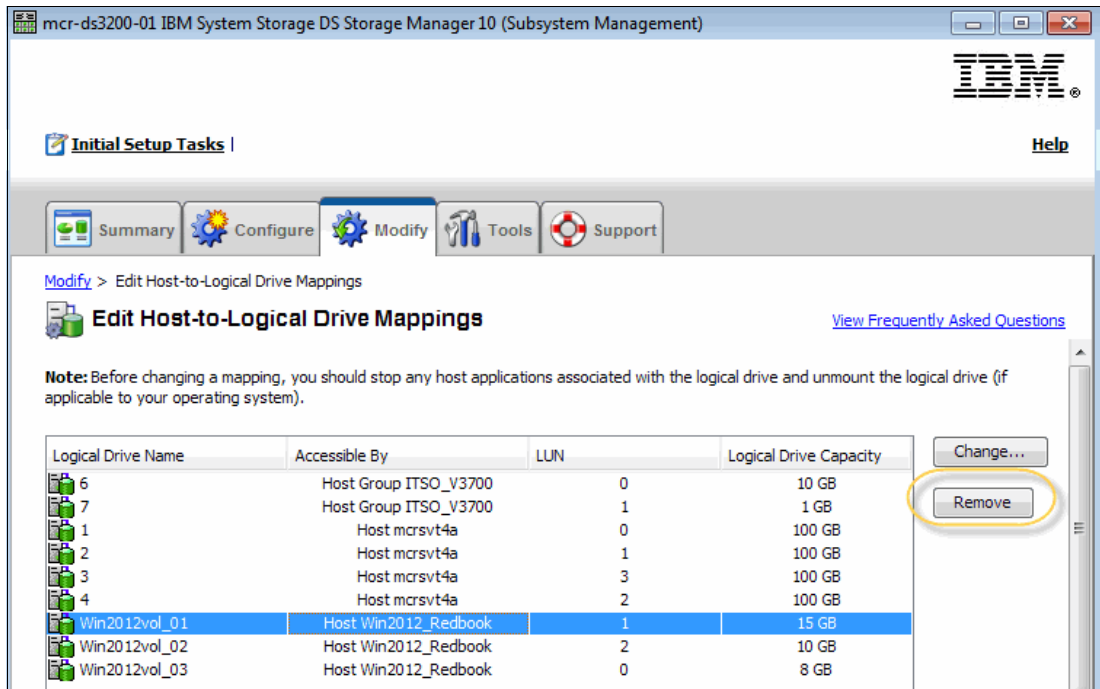

Figure 6-22 Removing a host volume mapping: IBM DS3200
- A list of volume mappings to hosts are displayed. Select the volume that you want to delete the mapping from, then click **Remove**, as shown in Figure 6-22.